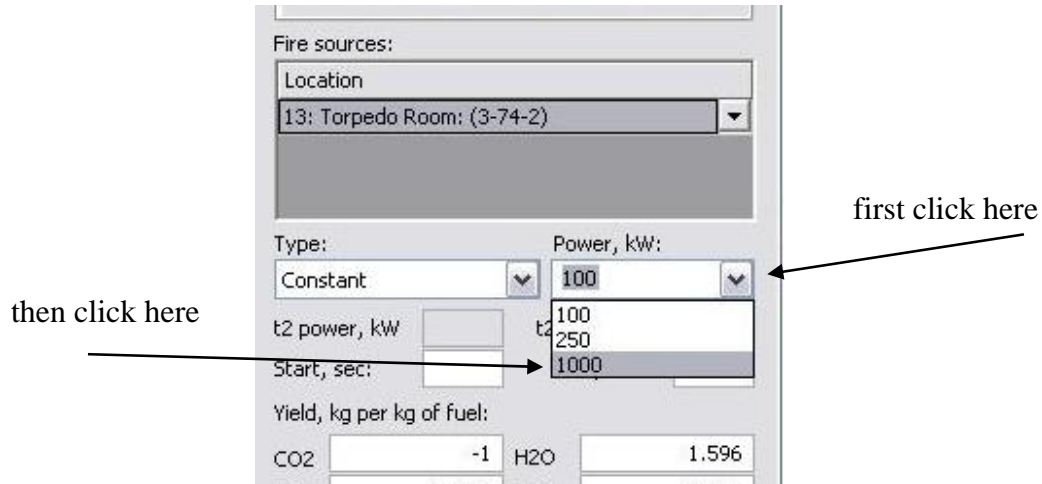

Figure 3-5 Power Settings
Step 5: Change the Power to 1000 (Figure 3-5)